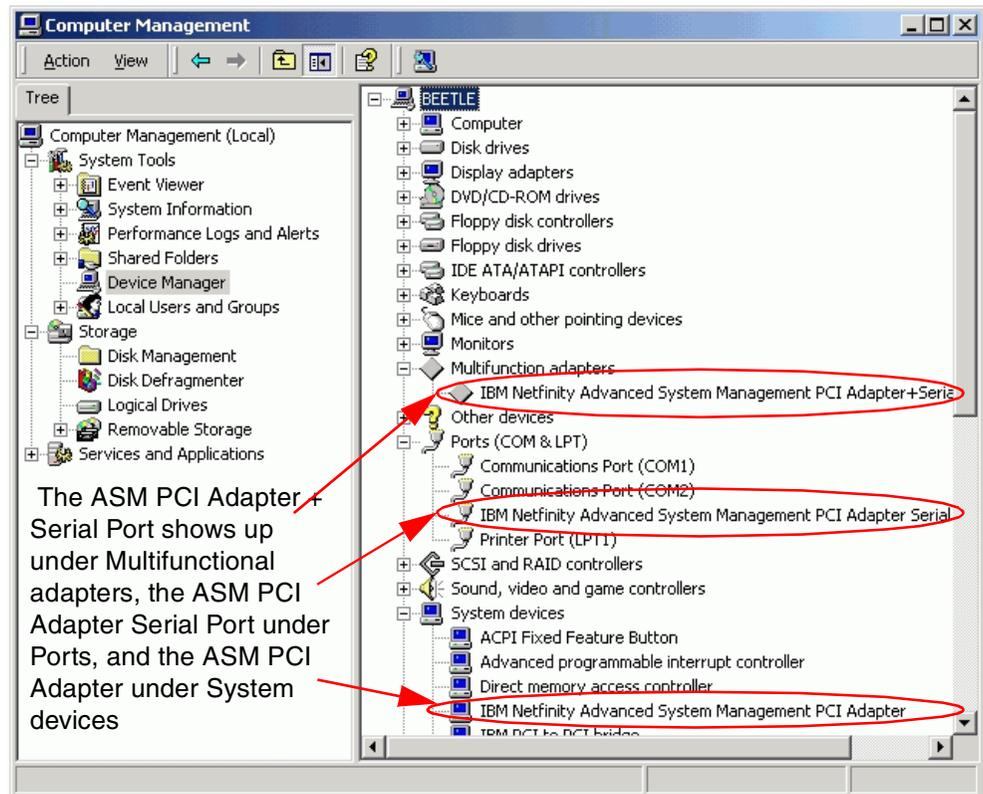

Figure 84. Device Manager: ASM PCI Adapter only
- Figure 84 (ASM PCI Adapter only)